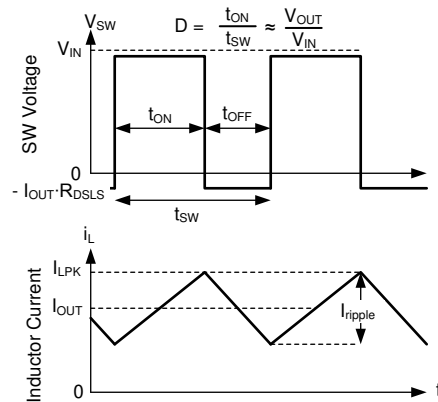

Figure 8-15. SW Voltage and Inductor Current Waveforms in Continuous Conduction Mode (CCM)
The following operating description of the LM61440 refers to Section 8.2 and to the waveforms in Figure 8-15. In CCM, the LM61440 supplies a regulated output voltage by turning on the internal high-side (HS) and low-side (LS) NMOS switches with varying duty cycle (D). During the HS switch on-time, the SW pin voltage, V_{SW} , swings up to approximately V_{IN} , and the inductor current, i_L , increases with a linear slope. The HS switch is turned off by the control logic. During the HS switch off-time, t_{OFF} , the LS switch is turned on. Inductor current discharges through the LS switch, which forces the V_{SW} to swing below ground by the voltage drop across the LS switch. The converter loop adjusts the duty cycle to maintain a constant output voltage. D is defined by the on-time of the HS switch over the switching period: